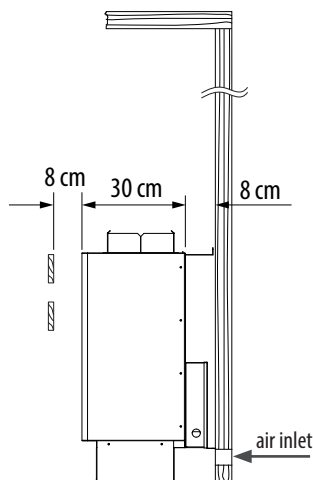

Fig. 2
- The distance between the oven safety grid or recliner bench and other flammable materials and the oven must be at least **8 cm**. The safety grid height must be equal to the frontal heater height (fig. 2).